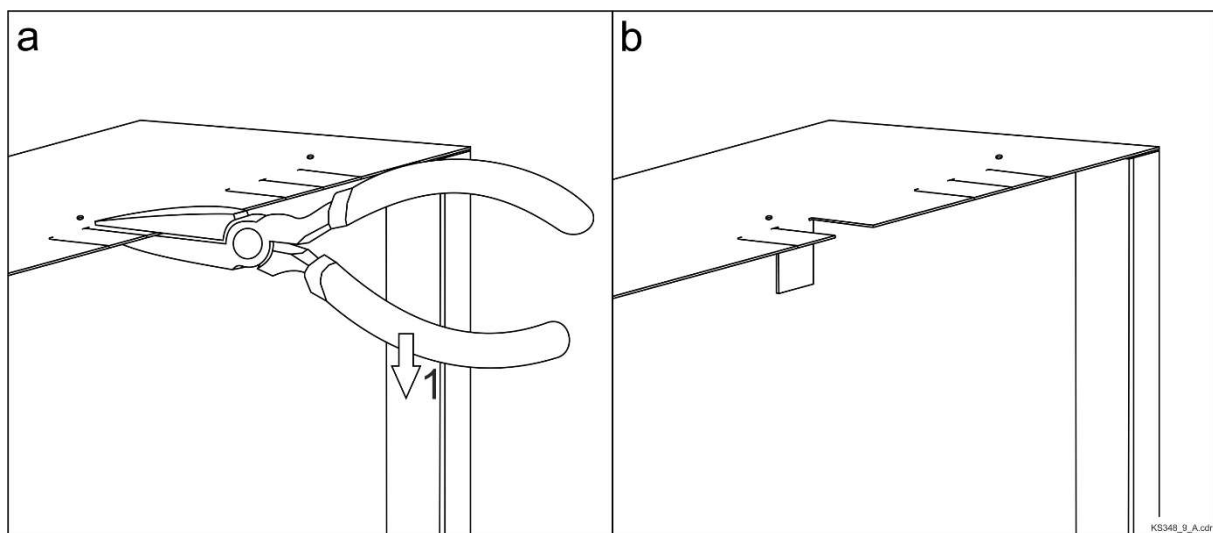

Fig. 4 Forming a cable entry hole in the bottom or top wall of the enclosure
10. To introduce cables into the enclosure from the upper or lower wall of the enclosure, form the cable holes as indicated in Fig. 4.